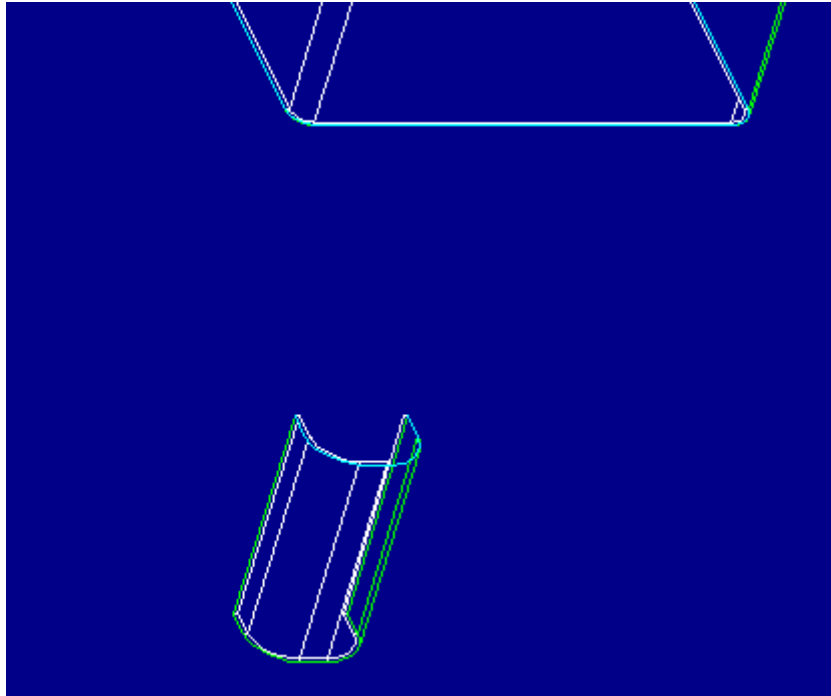

Figure 6
6. For the second curve, select **Tangent Chain** and select one of the back, lower set of edges on the small wall, as shown in Figure 6. Select **Done** and **Done Curves** from the CRV_OPTS menu.